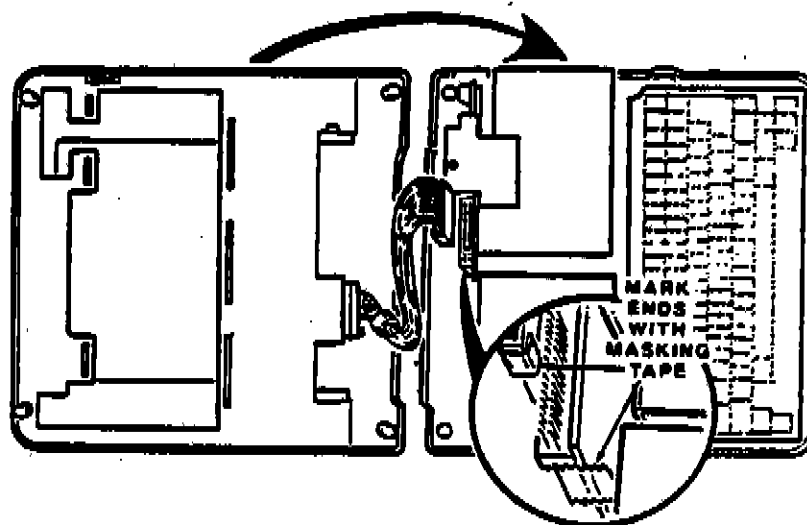

Figure 3-5. Disconnecting the Display
3. Carefully lift the computer from the keyboard top cover and set it down next to the top cover, as shown in Figure 3-5.